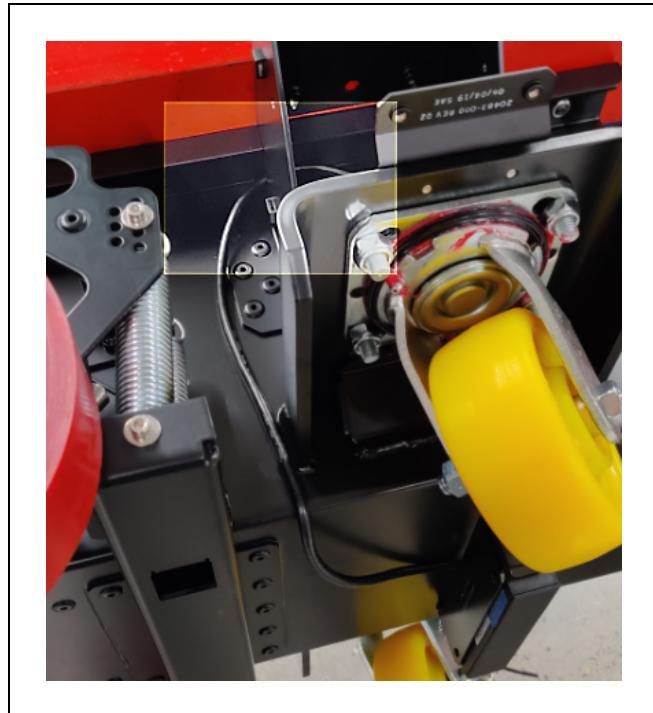

Figure 9-15 LD-250 Front HAPS Cable Routing Behind the Speaker Mount
3. Feed the cable behind the speaker mount as shown in Figure 9-15. Use a zip tie to secure the cable to the available cable tie mounts positioned on the chassis, leaving no slack.